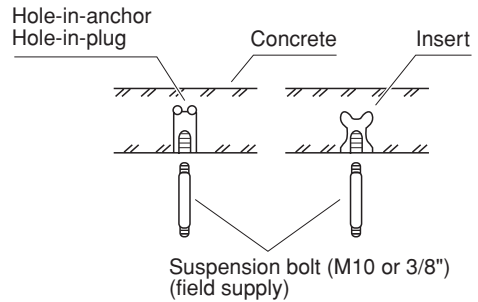
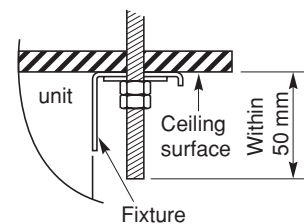

Fig. 3-69
Fig. 3-71
- (2) Drill holes at the 4 points indicated on the full-scale diagram.
- (3) Depending on the ceiling type:
- a) Insert suspension bolts as shown in Fig. 3-69.
- (4) Screw in the suspension bolts, allowing them to protrude from the ceiling as shown in Figs. 3-69 and 3-70. The distance of each exposed bolt must be of equal length within 50 mm. (Fig. 3-71)